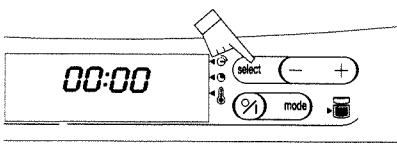

Fig. 1
1. Press the "select" position once. (fig. 1). The display flashes.